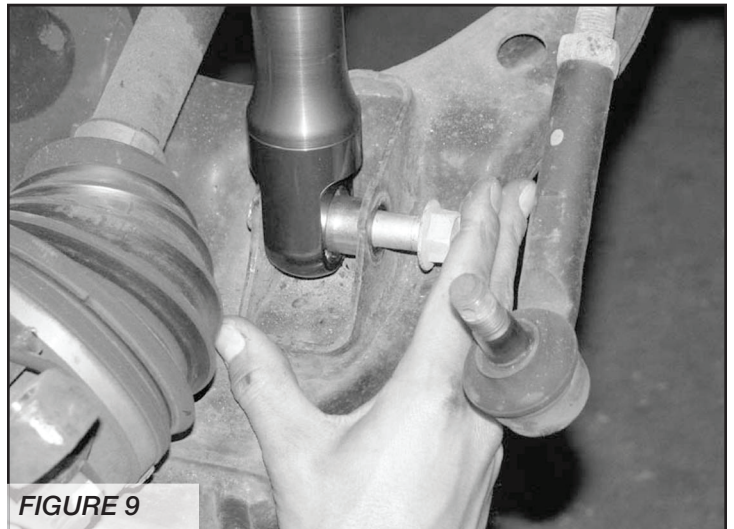

FIGURE 9
6. Install the rod end at the bottom of the shock into the lower control arm with the larger misalignment to the front of the Vehicle. Reinstall the factory bolt into the lower mount. Torque 100 Ft-lbs. **SEE FIGURE 9**